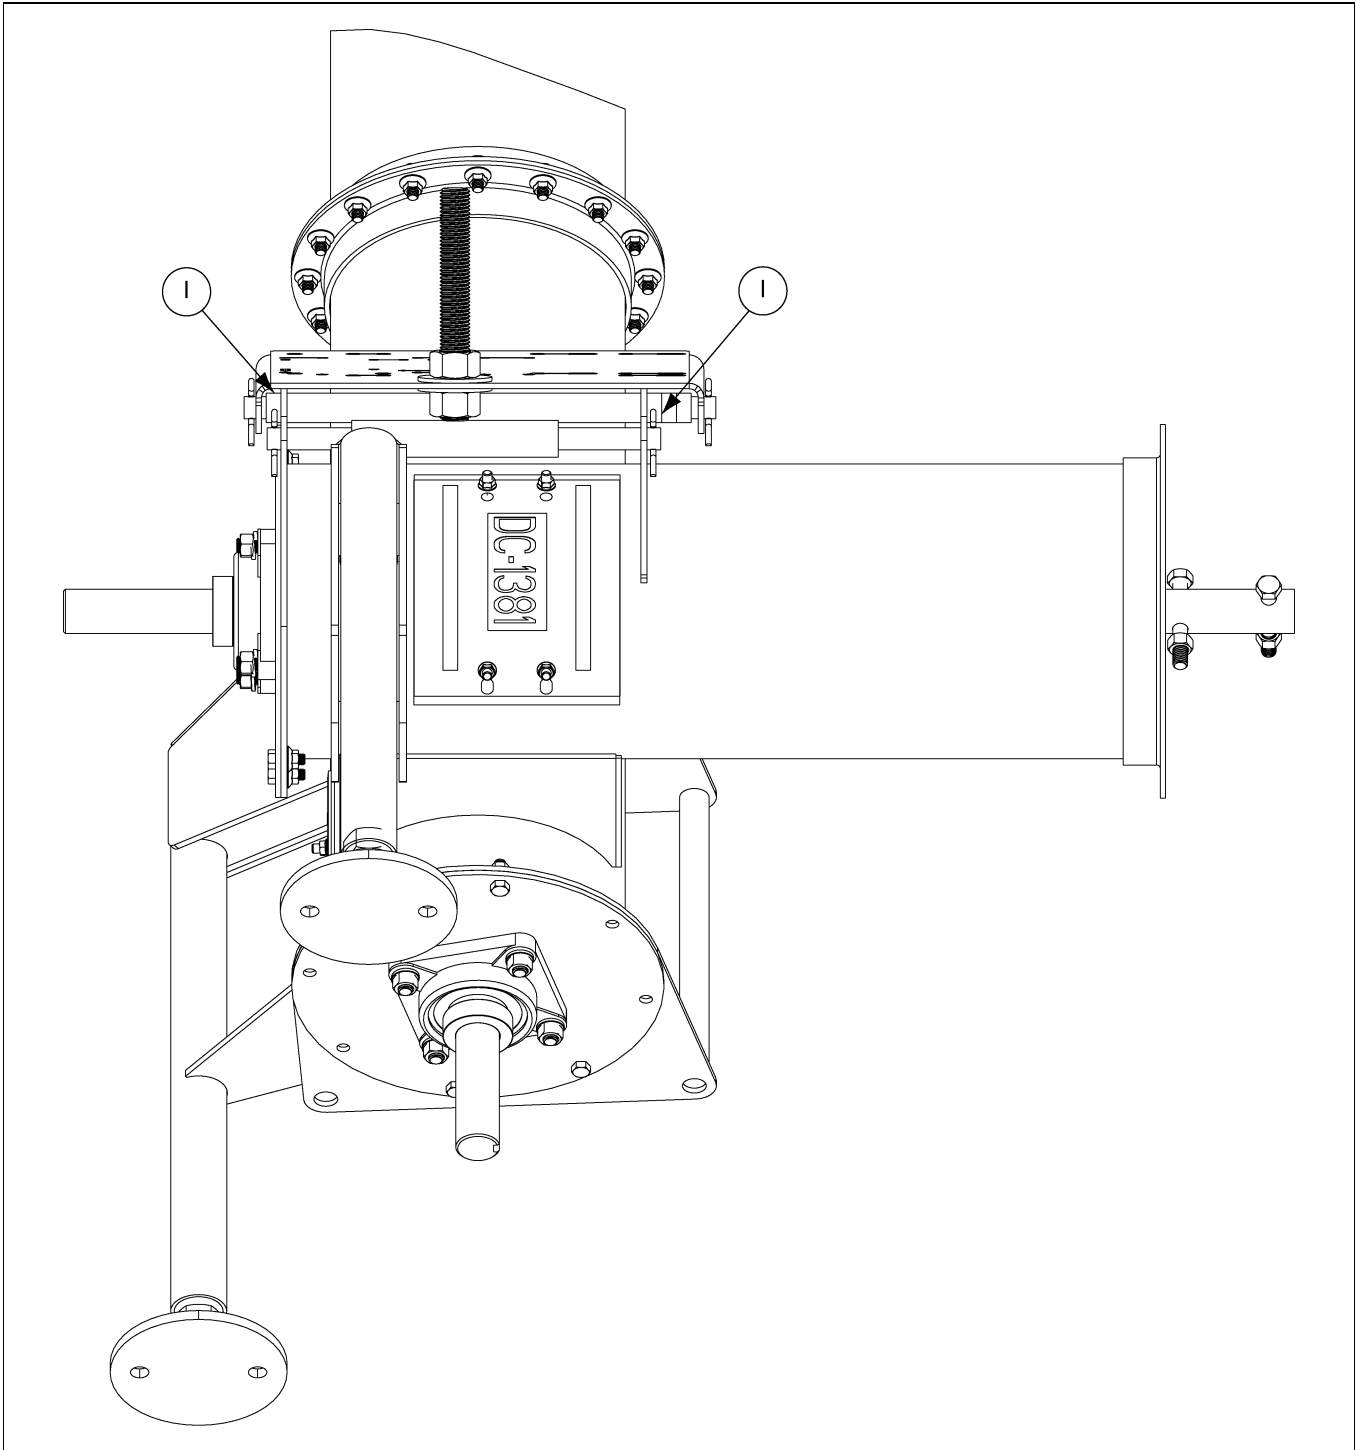
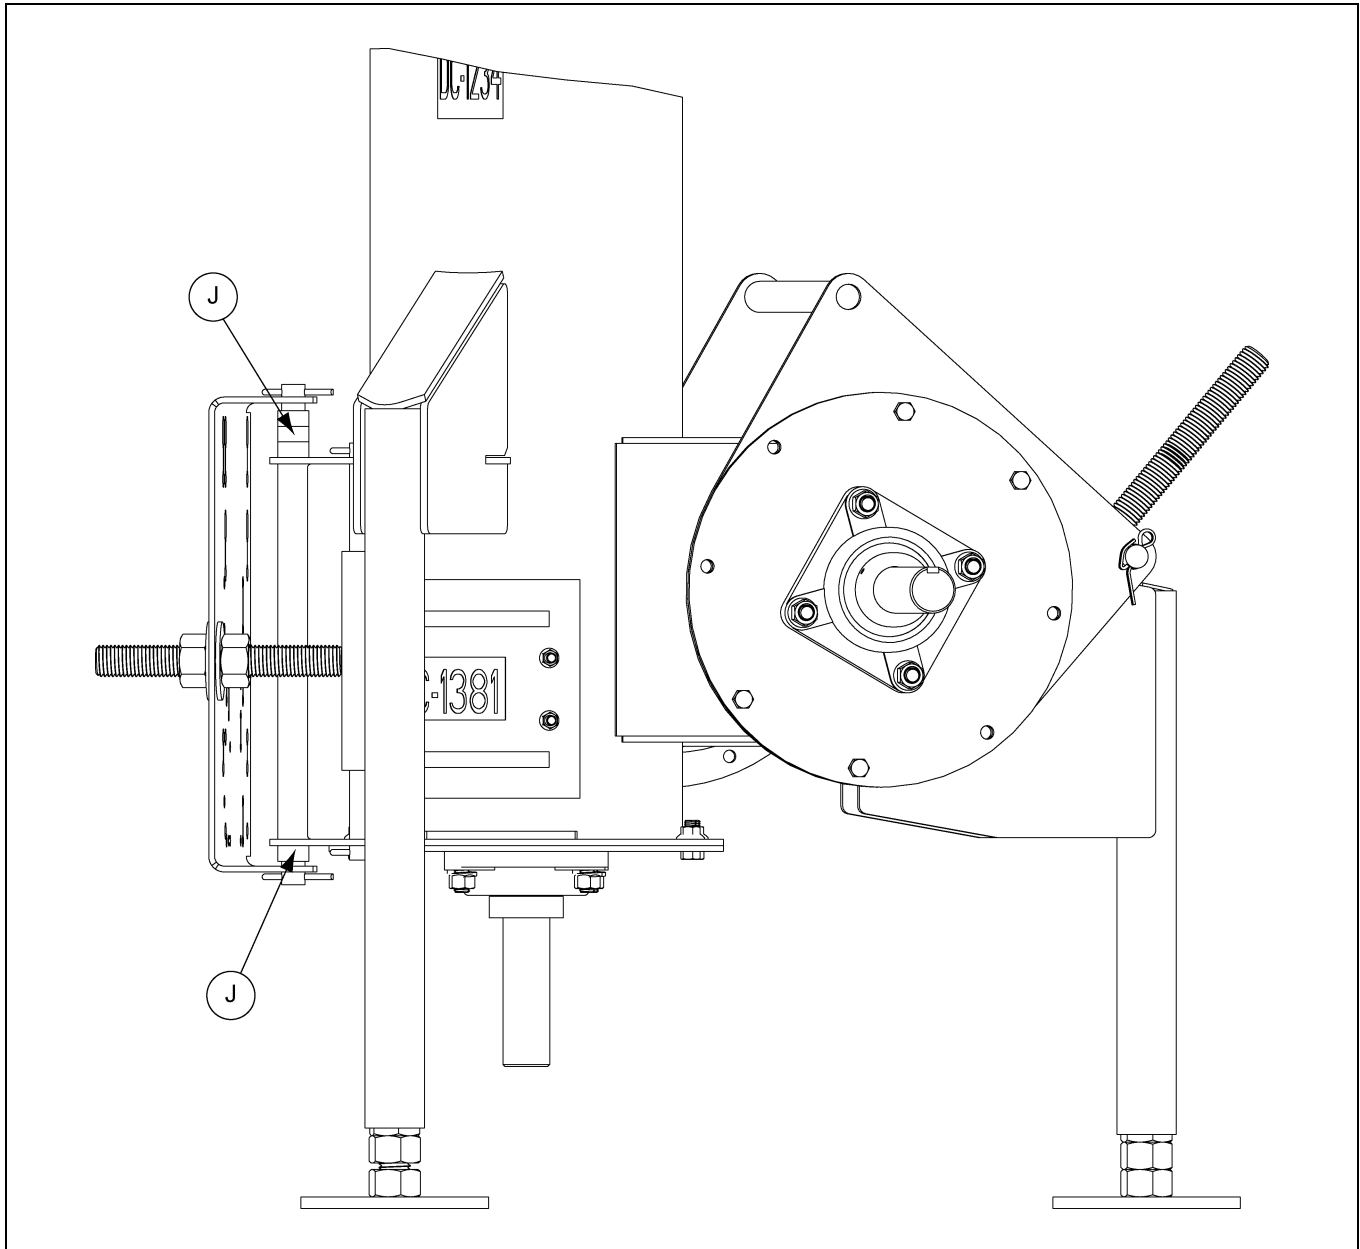

Figure 3J
Figure 3K
D. When the *pivot rod* begins to extend through the pivot tube, install the *spacers* BETWEEN the back plate and the inner face of the *motor mount plate*. (See Figure 3J below and Figure 3K on Page 23.)